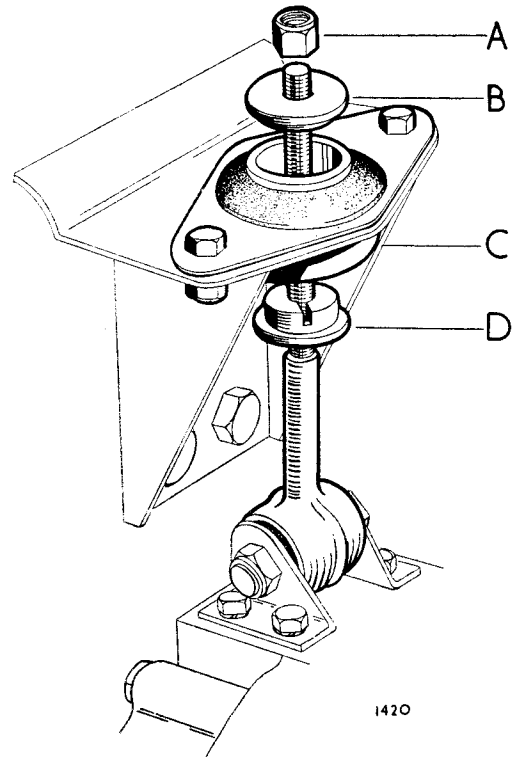

Fig. 60. The engine stabilizer.
Unscrew the self locking nut A Fig. 60 on the engine stabilizer and remove the upper flanged washer B.
1. Screw the lower flanged washer (D, Fig. 60) up the stabilizer pin until the flange contacts the bottom of the stabilizer rubber mounting (C). The washer is slotted on its upper face and can be screwed up the pin by engaging a thin bladed screwdriver in the slot through the centre hole of the rubber mounting.
2. Fit the upper flanged washer (B) and tighten down with the self-locking nut (A).